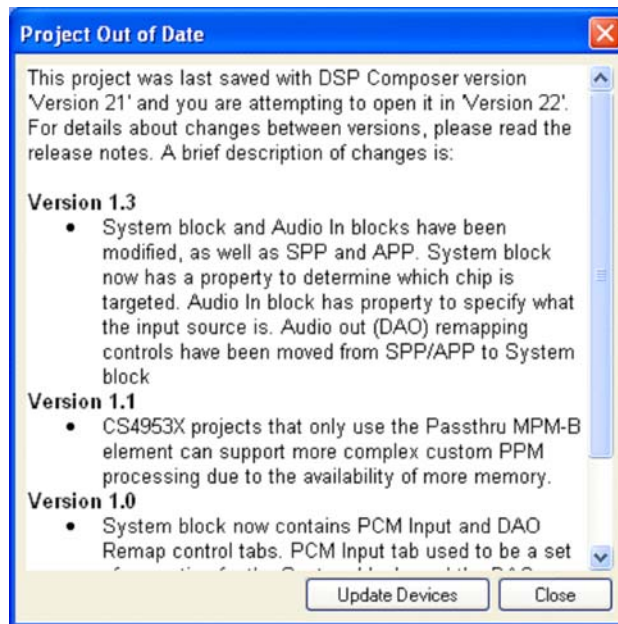

Figure A-1. Out-of-Date DSP Composer Notice
4. DSP Composer is part of the evaluation kit installation. Make sure the latest version of the evaluation kit is installed in 'C:\CirrusDSP' folder to avoid any version mismatch issues. If there the version installed on your system is out-of-date, a screen pops up with a request to update the needed files. See the out-of-date evaluation kit notice in Figure A-1.